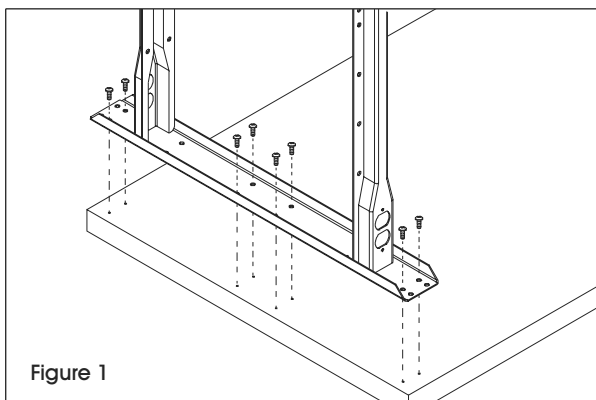

Figure 1
1. Using 16 wood screws, attach legs to the underside of the 72" top (5) through pre-drilled holes. (See Figure 1)
1. Using 17 wood screws, attach L-leg (6) and leg (2) to the underside of 48" top (8) through pre-drilled holes. (See Figures 1 and 2)